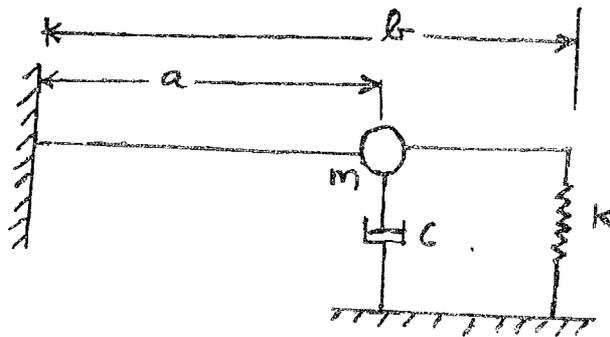

Fig. Q. 11. (ii)
- (ii) Derive the equation of motion for the system shown in Fig. Q. 11. (ii) determine the following :
- (1) Natural frequency of damped oscillation
- (2) Critical damping coefficient.